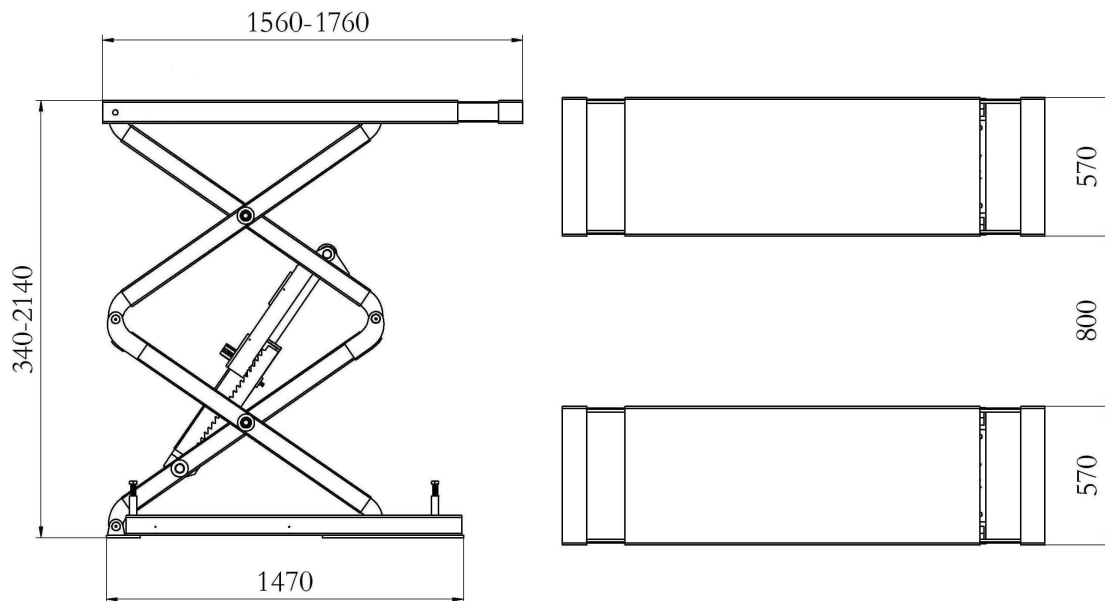

Fig. 2 Dimensions layout
2.2 Dimensional Schematic Diagram (Fig. 2):
Refer to dimension layout Fig.2 and Foundation Installation Diagram Figure II for foundation preparation. Thickness (strength) and level of concrete is important. Don't rely much on machine adjustment on level. Under good geological conditions, the thickness of the concrete foundation is above 150mm, and recommended thickness 180mm-200mm. Total length of level degree $\leq 5\text{mm}$.
Lift the platforms up about one meter. Press LOCK button. Keep the left and right mechanical locks fall in the same lock tooth. Adjust the space around the lifts well (Refer to Fig. 2). Use a bolt to bore the bolt $\Phi 14$ holes in the ground. Put in the bolts but not expanded.